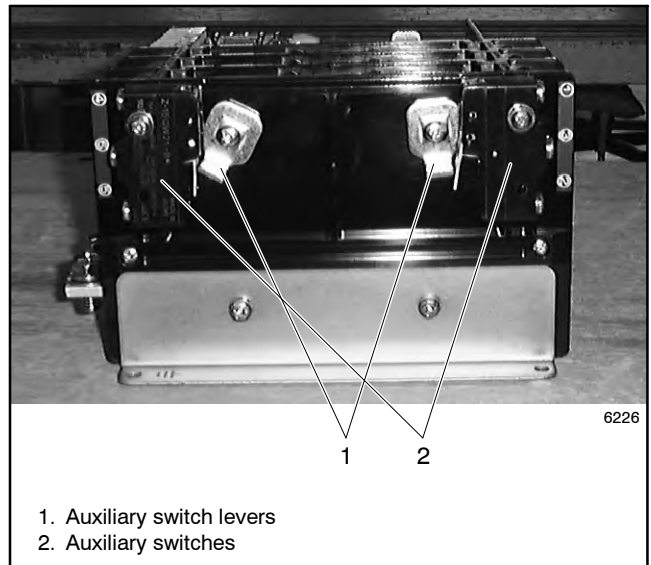
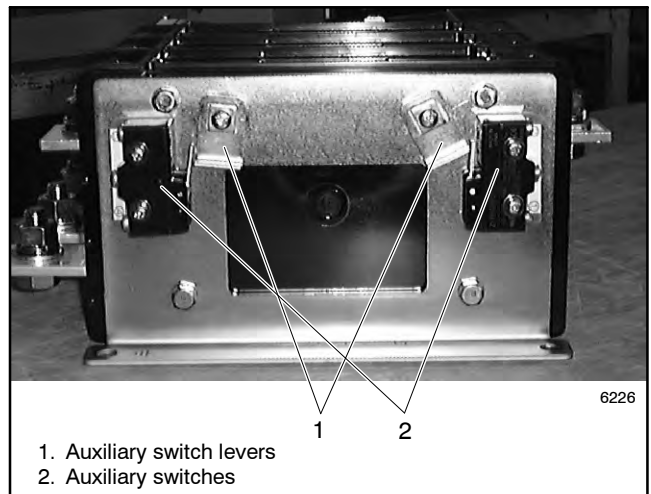

Figure 7-9 100 and 200 Amp Models
Figure 7-10 400 Amp Models
3. Reinstall the auxiliary switch levers, if removed, aligning the square indentation with the end of the square shaft. See Figure 7-9 and Figure 7-10.
4. Reinstall the auxiliary switches, if removed. The 100 and 200 amp models use one bolt and one alignment pin per switch. See Figure 7-9. Larger models use two bolts per switch. See Figure 7-10.